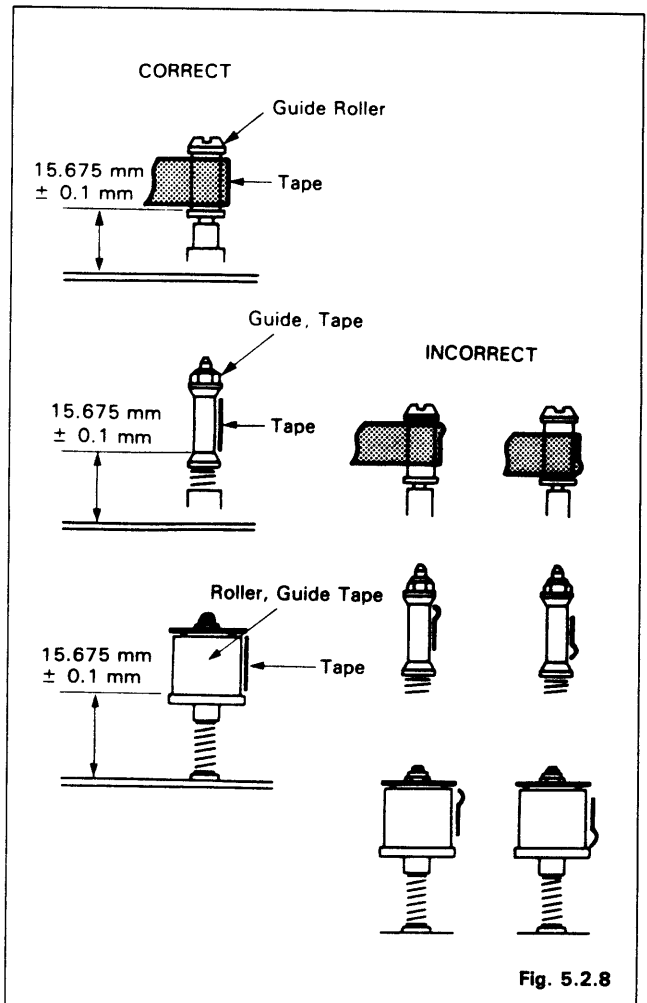

Fig. 5.2.8
5. During loading, play and unloading, observe the tape at the supply and take-up guide rollers, tape guide and tape guide roller. Confirm that there is no curling or creasing, etc., as shown in Fig. 5.2.8.
6. If any curling or defects are noted, adjust tape guide roller and tape guide first. Adjust the height adjustment nut so that the tape runs as shown in Fig. 5.2.8. (Refer to Fig. 5.2.9)
Adjust the height by turning the driver slightly so that the tape runs on the guide roller as shown in Fig. 5.2.8, and the lower edge of the tape runs along the lead surface of the cylinder.